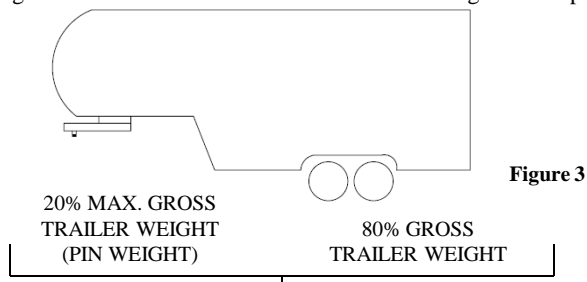

Figure 3
- King pin weight must not exceed 3,200 pounds (See Fig. 3). If in doubt have king pin weight measured by qualified facility.
2. The 5th Airborne pin box is designed for a maximum of 20% Gross Trailer Weight on the pin (Pin Weight). See Fig. 3